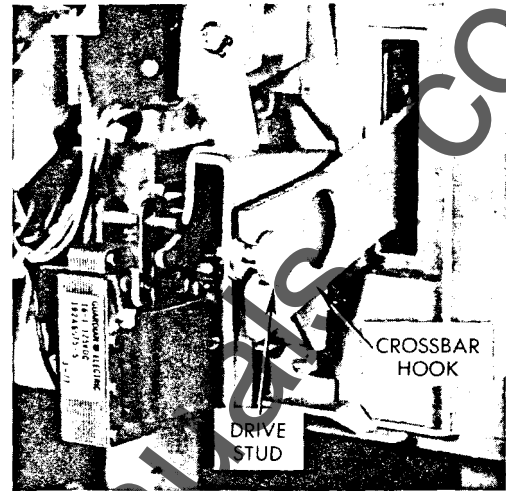

Fig. 9
- b. Slide the Inner Cover Assembly onto the breaker base. Ensure that the crossbar hook engages the drive stud as shown in Fig. 9.